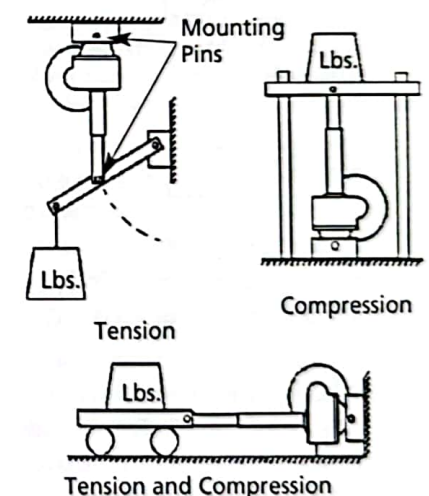

Figure 4 - Mounting Options
**NOTE:** A variety of mounting options are provided. (See Figure 4.)